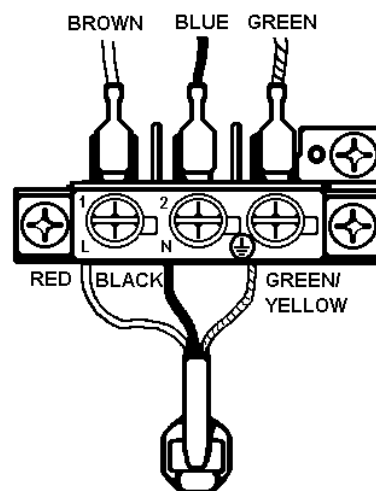

FIG.2.
- **Do not** remove the screws from the earth tab extending from the main oven terminal block (Fig 2).
- Make connection as shown in Fig 2 by proceeding as follows:-
- Clamp bare wires into the relevant terminal (Fig. 2) and check they are held by tugging each one in turn.